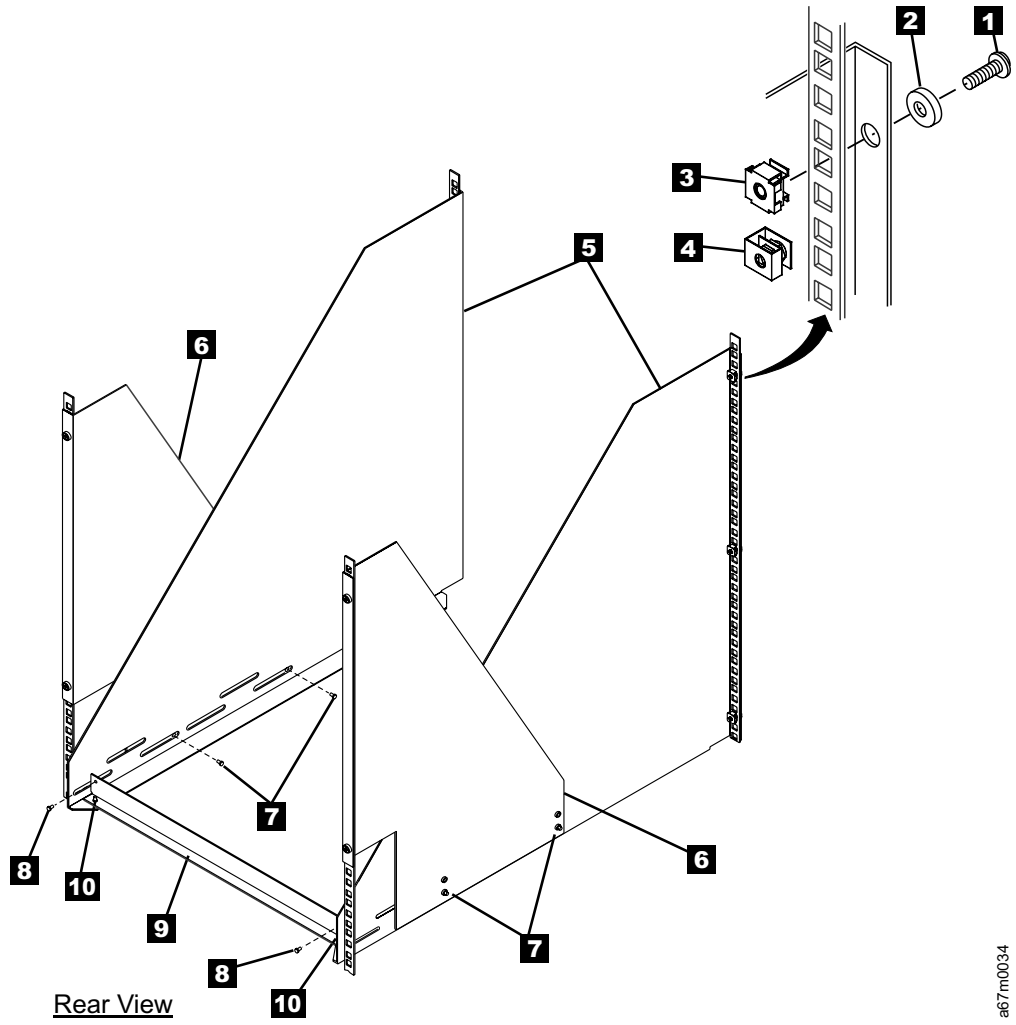

Figure 16. Components of the rackmount kit
1. Open the shipping carton and remove the components of the kit (see Figure 16 on page 39).